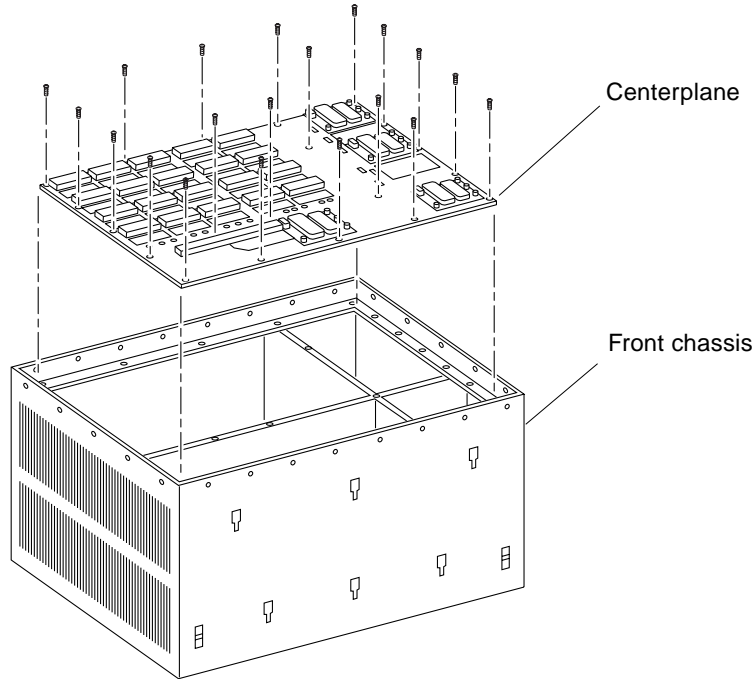

FIGURE 8 Centerplane Replacement Detail
5. Remove the 20 screws that hold the centerplane to the front chassis (FIGURE 8).